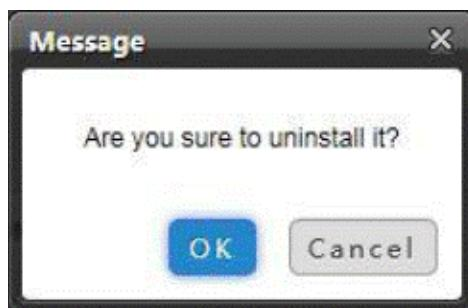

Figure 4-88 Confirmation Dialog Box for Uninstall
- » A confirmation dialog box will pop up as shown in Figure 4-88.